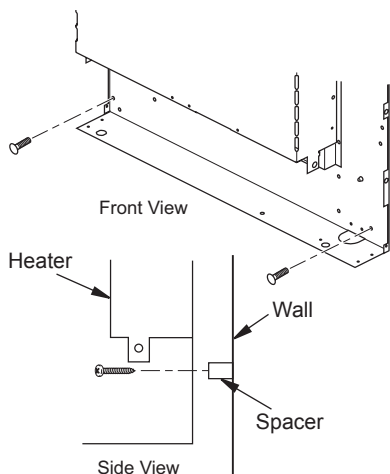

Figure 14 - Installing Bottom Mounting Screws
1. Locate two bottom mounting holes. These holes are near bottom on back panel of heater (see Figure 14).